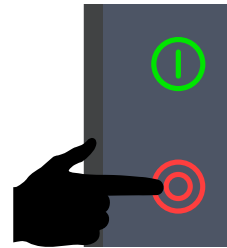

Figure 147. Stop Button
1. Press the **Stop button** (Figure 147) on the digital controller.